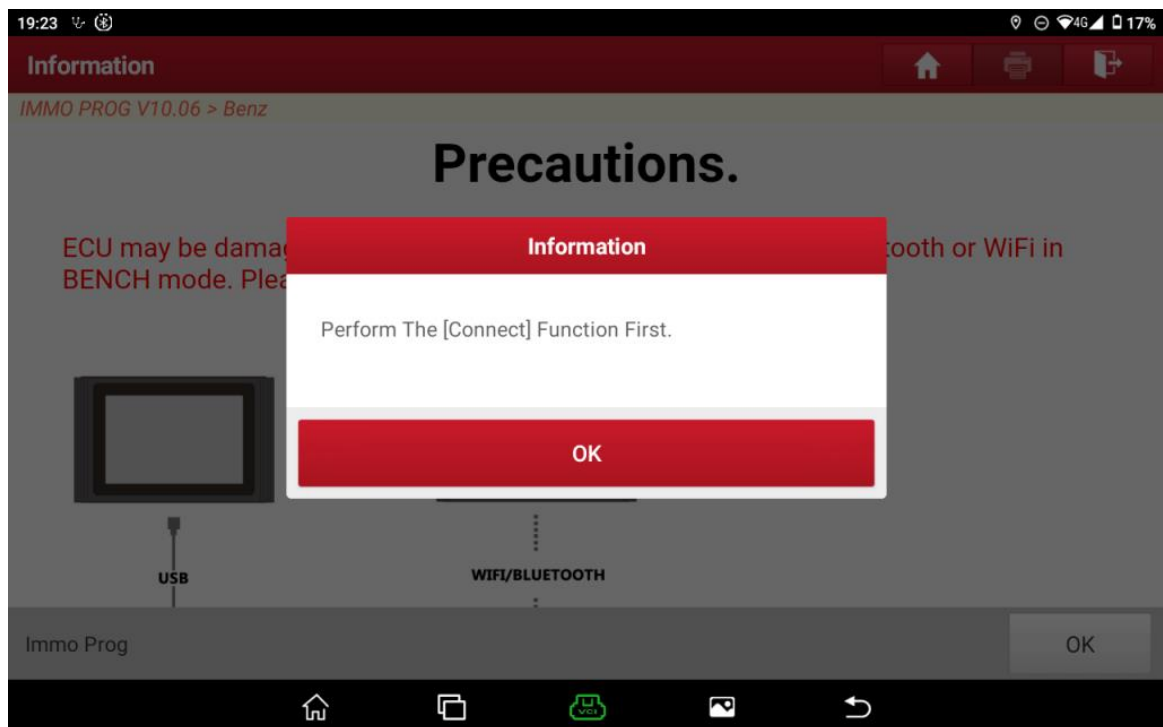

Figure 4
3. Click [OK] to execute the [Connect] function first, as shown in Figure 4.